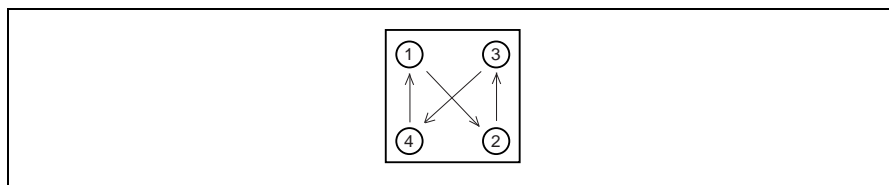

Figure 2.5 Sequence of Screw Tightening
- Screw the cable head to the socket with the screws provided. Progressively tighten the screws in the sequence shown in figure 2.5 until all are 'finger tight'.